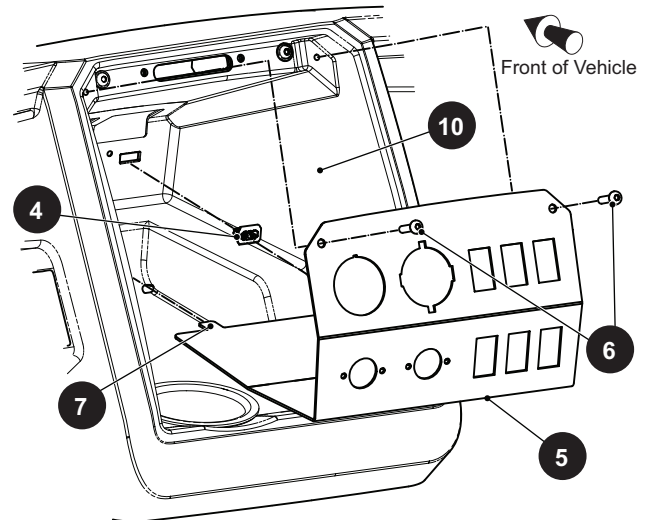

Fig. 5 Gauge Panel Replacement
1. Remove two screws (6) that secure the gauge panel (5) to instrument panel (10).
2. Gently pry out the top of the gauge panel (5).
4. Pull the bottom of the gauge panel away from and out of the instrument panel (10) (Ref. Fig. 5).